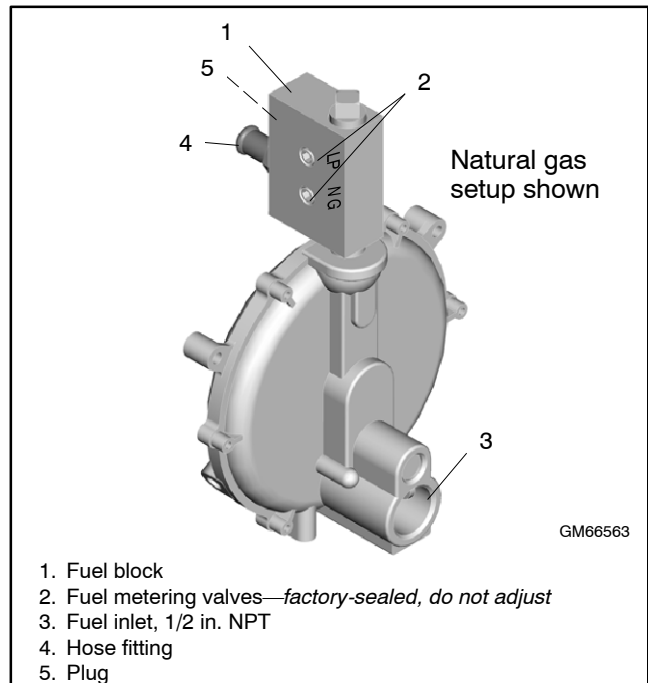

Figure 6-32 Fuel Block, 14RESA/RESAL
5. Remove the hose clamp and fuel hose from the hose fitting in the fuel block. See Figure 6-32.
6. Remove the hose fitting from the natural gas outlet port in the fuel block. See Figure 6-32.
7. Remove the plug from the LPG port in the fuel block. See Figure 6-32.